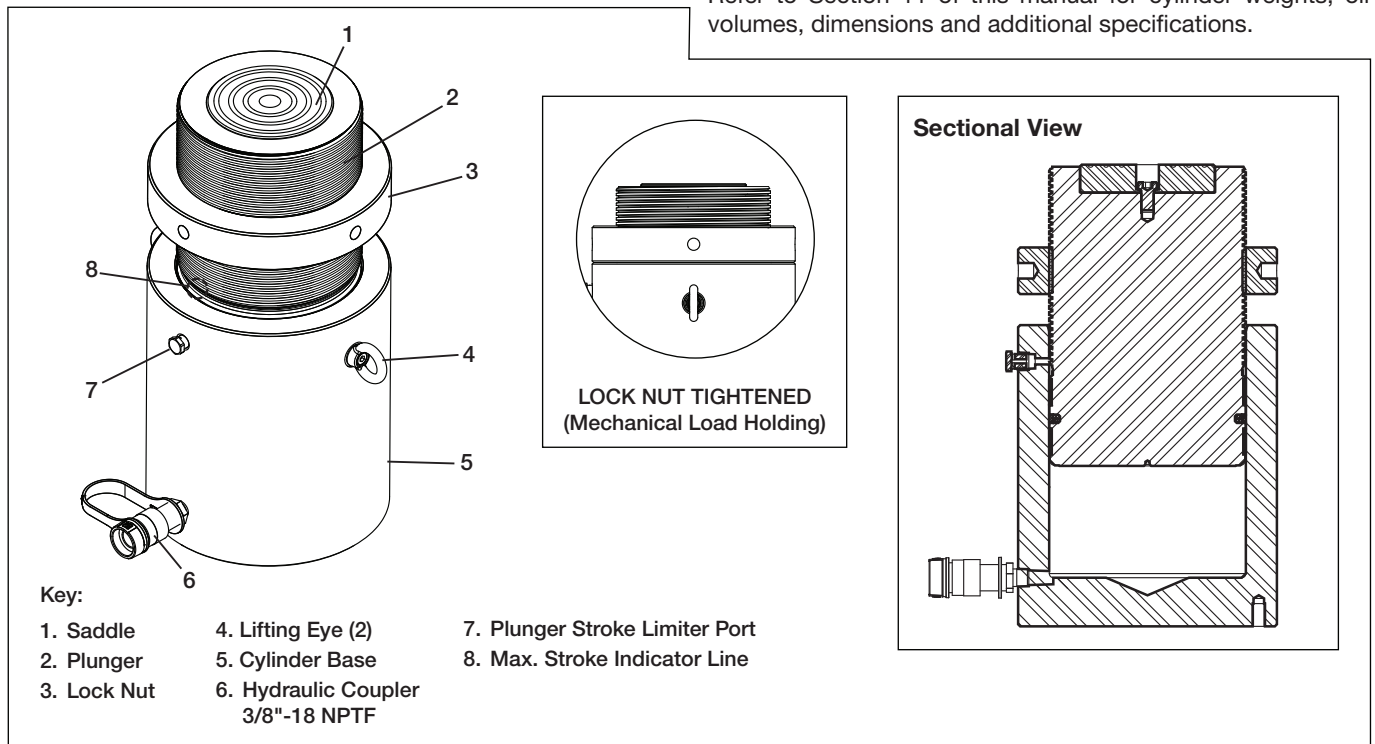

Figure 2, Major Features and Components
All HCL-Series cylinders are equipped with one 3/8"-18 NPTF female hydraulic coupler. Refer to Figure 2, item 6 for location. This coupler provides hydraulic flow for both advance and retract functions. It is compatible with all Enerpac HC Series hydraulic hoses.